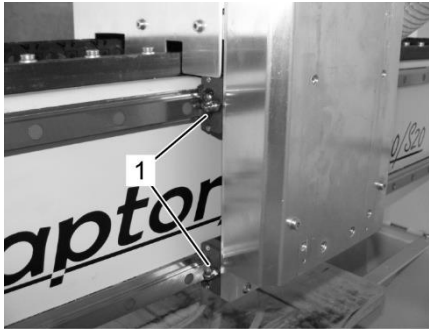

Fig. 42: Grease nipple on Y-axis
2. Remove protective cap from the grease nipple of the Y-axis (Fig. 42/1), if present.